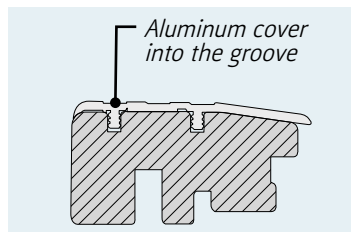

Figure 17: Threshold viewed from the side. Place the aluminium cover into the grooves on the threshold
- b. Place the aluminium cover into the grooves on the threshold (figure 17).